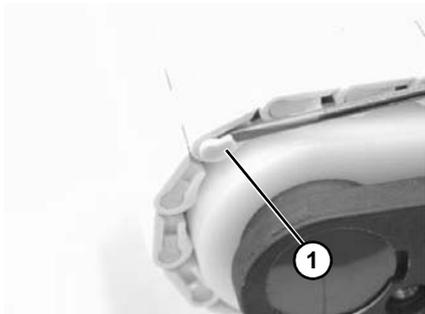

Figure 37
1. Choose one link on the idler end of chain to remove endcaps. With a 2.4 mm flat blade screwdriver, pry under tab of end caps (Figure 37, item 1) and remove end cap. Repeat for opposite side of conveyor.